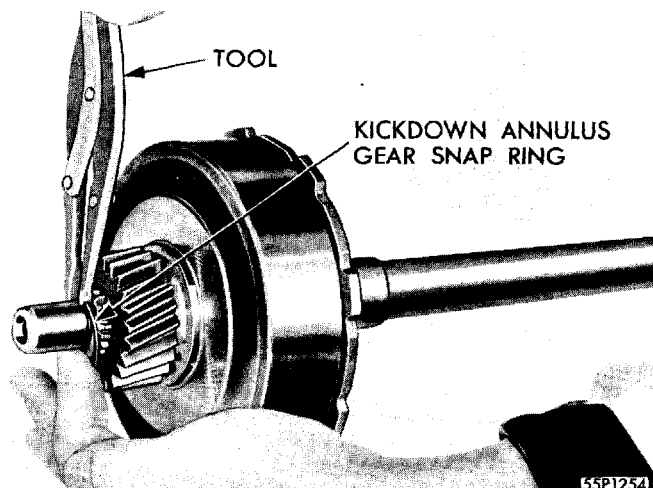

Fig. 25—Removing or Installing Kickdown Annulus Gear Snap Ring
(4) Remove the kickdown annulus gear after removing snap ring (Figure 25) from input shaft. Inspect gear for pitted, cracked, and broken teeth. Remove the small (tabbed) thrust washer and inspect for cracks, burrs and wear.
(5) Remove kickdown planet pinion carrier assem-